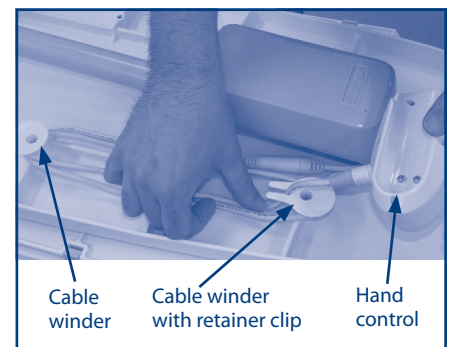

Figure13
- v) Wind the hand control cable around the cable winders on the rear of the backrest, then attach to the retainer clip (see fig 13). This will prevent potential damage to the hand control caused by the trailing cable.